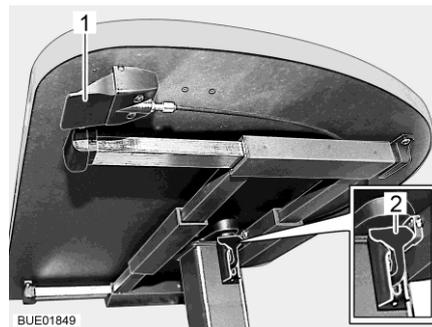

Fig. 54 Lift-off table with release button
- Pull or press down the catch lever (Fig. 54,2).
- Press the catch lever (Fig. 54,2) upwards.
- Press the release button (Fig. 54,1) and hold it down. The table top moves automatically upwards to the limit stop.
- Release the release button (Fig. 54,1). The table top remains in the desired position.
- Press the release button (Fig. 54,1) and hold it down.
- Release the release button (Fig. 54,1). The table top remains in the lowest position.